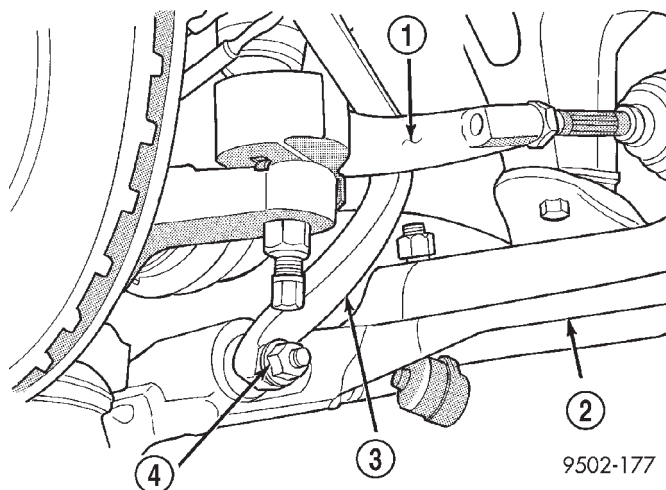
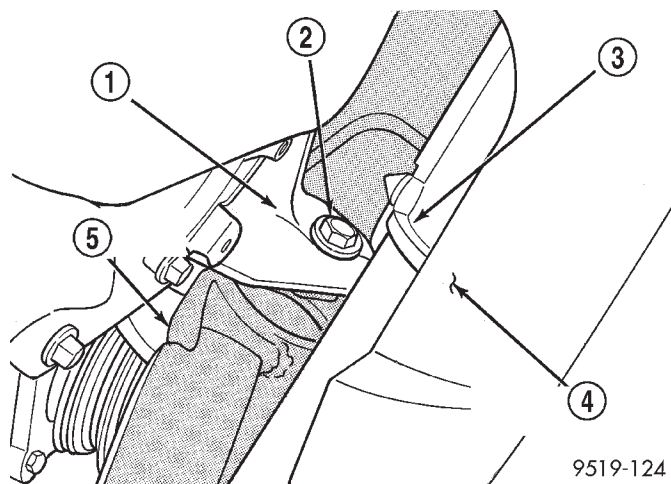
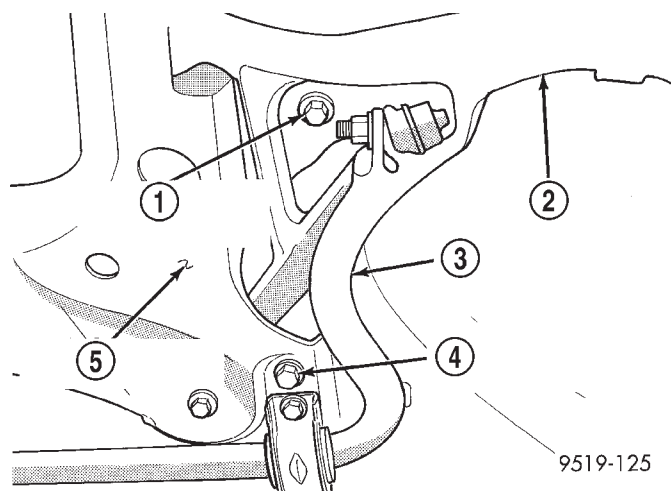
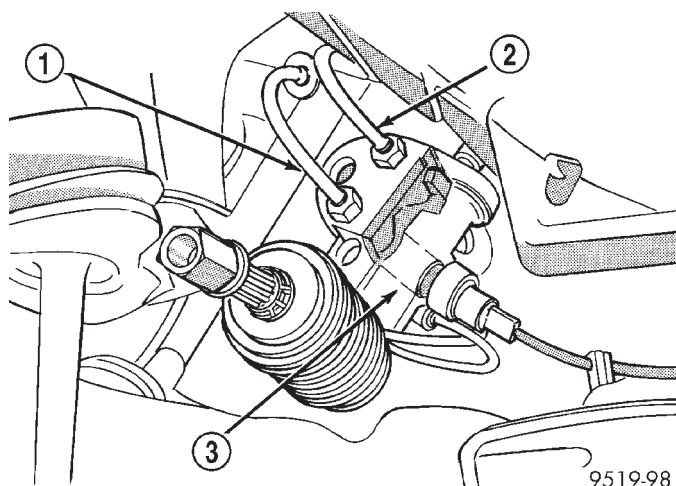

Fig. 15 Shock Clevis To Lower Control Arm Bolts
Fig. 18 Engine Support Bracket To Transaxle Bracket Bolt
Fig. 19 Crossmember To Body Attaching Bolts
Fig. 20 Power Steering Pressure And Return Hose At Steering Gear
(13) If vehicle is equipped with antilock brakes, remove the 3 bolts attaching the antilock brakes hydraulic control unit to the front suspension crossmember.
(14) Remove the bolts attaching the shock absorber clevis to the left and right lower control arms (Fig. 15).
(17) Remove bolt (Fig. 18) attaching engine support bracket to the transaxle mounting bracket.
(18) Position a transmission jack under the center of the front suspension crossmember. Transmission jack is used to lower, support and raise front suspension crossmember when removing steering gear assembly.
(19) From each side of the vehicle, remove the 2 bolts attaching the front and rear of the front suspension crossmember to the frame rails of vehicle (Fig. 19).
(20) Using transmission jack, lower front suspension crossmember enough to allow steering gear to be removed from crossmember. **When lowering front suspension crossmember, do not let crossmember hang from lower control arms, weight of crossmember must be supported by the transmission jack.**
(21) Remove power steering fluid, pressure and return hoses from the power steering gear assembly (Fig. 20).
(22) Remove wiring harness connector, (Fig. 20) from the power steering fluid pressure switch.
(2) Install the power steering fluid pressure and return lines on the ports of the power steering gear (Fig. 20). Tighten power steering fluid pressure and return lines to steering gear tube nuts (Fig. 20) to a torque of 31 N·m (275 in. lbs.).
(3) Using transmission jack, raise front suspension crossmember and steering gear against body of vehicle. Start the 2 rear bolts (Fig. 19) into tapping plates, attaching front suspension crossmember to body of vehicle. Then install the 2 front bolts, (Fig. 19) attaching front suspension crossmember to frame rails of vehicle. Tighten the 4 mounting bolts evenly, until front suspension crossmember is against body of vehicle at the 4 mounting points. Then torque the 4 mounting bolts to 2 N·m (20 in. lbs.) to hold front suspension crossmember in position.
(6) Install bolt (Fig. 18) attaching engine support bracket to transaxle mounting bracket. Tighten bolt to a torque of 75 N·m (55 ft. lbs.).
(8) Install vehicle wiring harness connector onto power steering fluid pressure switch on steering gear assembly (Fig. 20). **Be sure locking tab on wiring harness connector is securely latched to pressure switch.**
(9) Install the antilock brakes hydraulic control unit mounting bracket on the front suspension crossmember. Install the 3 mounting bracket to crossmember attaching bolts and tighten to a torque of 28 N·m (250 in. lbs.).
(10) Loosely install the 2 shock absorber clevis to lower control arm attaching nuts and bolts (Fig. 15).